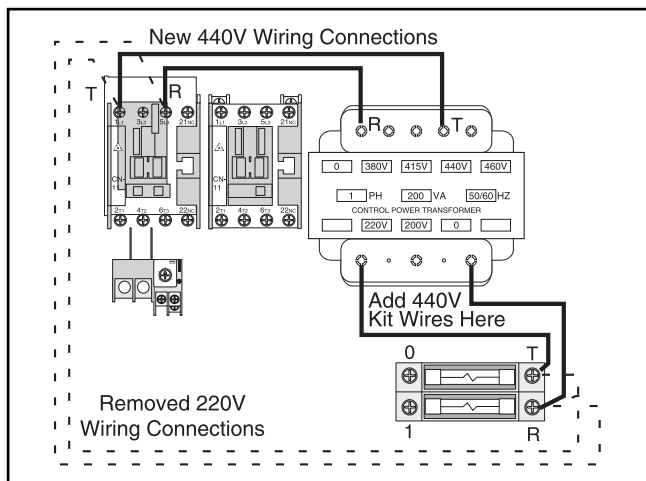

Figure 4. Wiring connections for 440V conversion.
3. Remove the T and R wires from the fuse terminals and connect them to the terminals on the upper part of the voltage transformer, at the location shown in **Figure 4**; then attach the wires included with 440V conversion kit from the fuse terminals to the terminals on the lower part of the voltage transformer, also as shown in **Figure 4**. Note—*Make sure the wires are routed through the wiring duct to properly secure them and minimize fire hazards.*